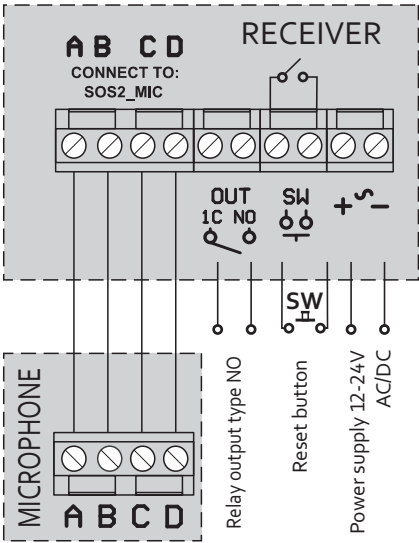

Fig. 2. Device connection diagram.
The electrical connection should be made in accordance with the connection diagram, fig. 2. The receiver is powered by 12-24V AC/DC. The power supply cables should be connected to the "+" and "-" terminals of the receiver. The OUT (NO) relay output is designed to provide a signal controlling a gate, barrier or other road barrier. It should be connected to the manual control input dedicated to the controller barrier, following the instructions for the given device. The reset button should be connected to the SW terminals. The receiver has connectors A, B, C, D for connecting a microphone, they should be connected according to the diagram. We recommend using the 4x0.5mm2 (3m) cable included in the set.